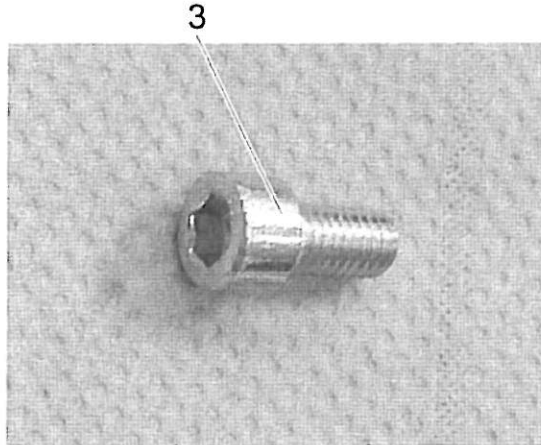

Figure 9
5. Apply Loctite 243 to four screws (item 3). See Figure 9.